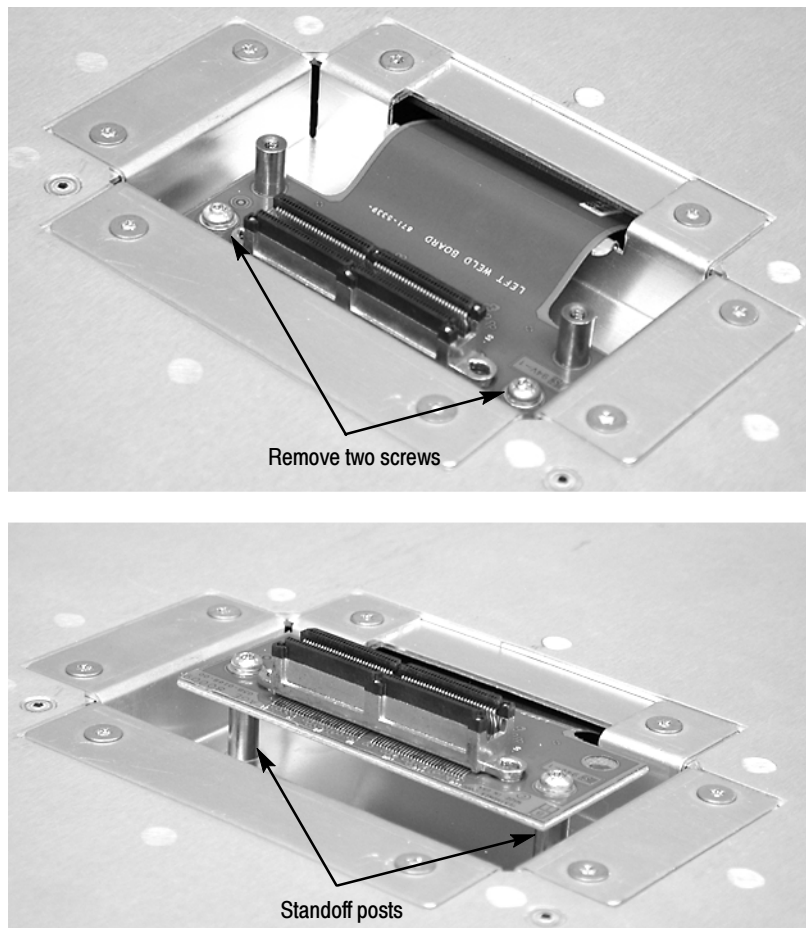

Figure 24: Removing the merger connector assembly from the module
2. Using a Torx T-10 screwdriver, remove the two screws holding the merge connector to the module (see Figure 24).